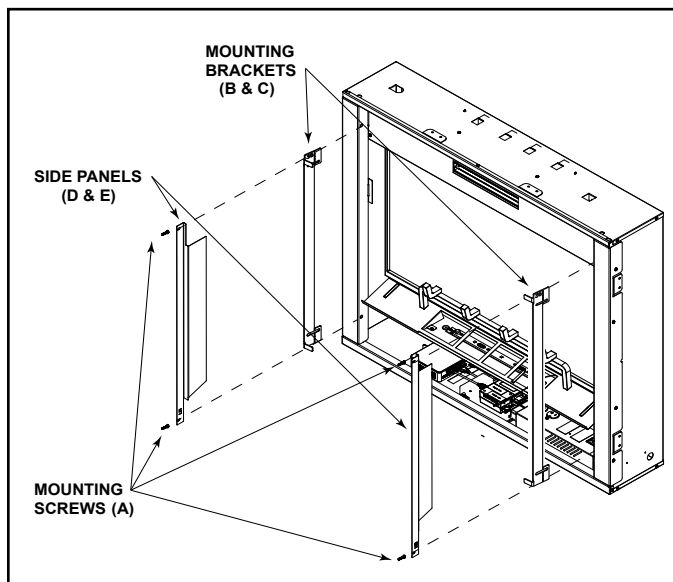
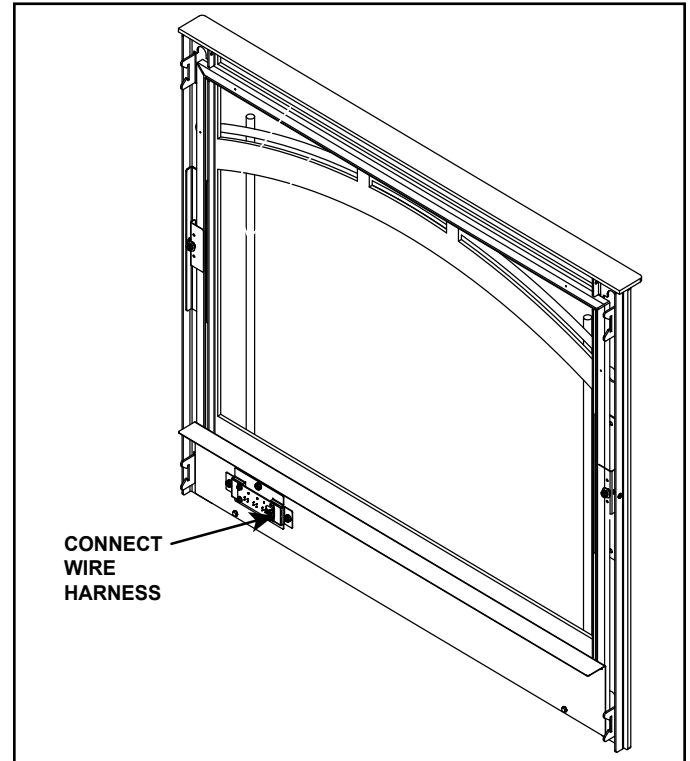

Figure 5 Attach Side Panels
Figure 6 Install Decorative Front
4. Attach mounting brackets (B and C) and side panels (D and E) to appliance using the four mounting screws (A). See Figure 5. Locate the laser-cut number 36 on the bracket which represents the size of the decorative front. This marking also indicates the top of the bracket. Install the bracket so that the front edge of the bracket sits flush with the desired depth of the decorative front. Mounting tabs should extend at least 1/8 inch past desired depth. See Figure 6. Side panels install over the mounting brackets using the same mounting screws (A).
5. Connect the wire harness at the lower right of the front to the corresponding connector from the appliance, See Figure 5.